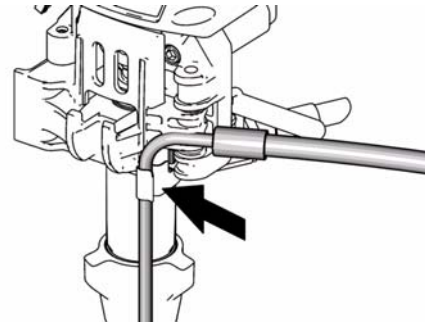

FIG. 24
7. FIG. 24. Attach drain hose to sprayer.